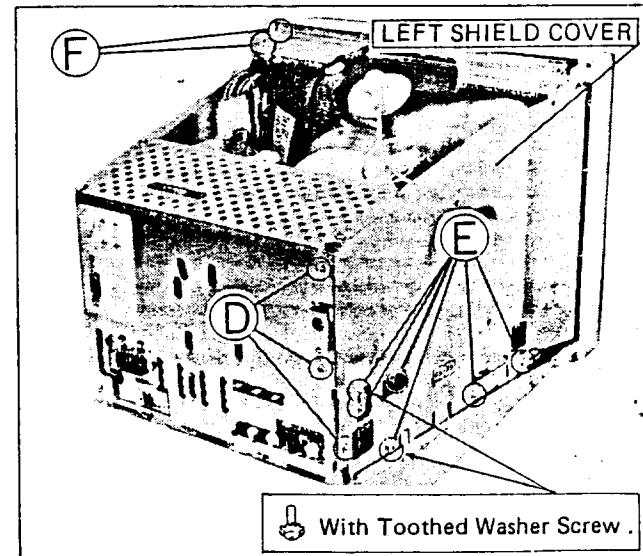

Fig. 4
3. Remove the two screws marked **(F)** shown in Fig. 4, and remove the left shield.